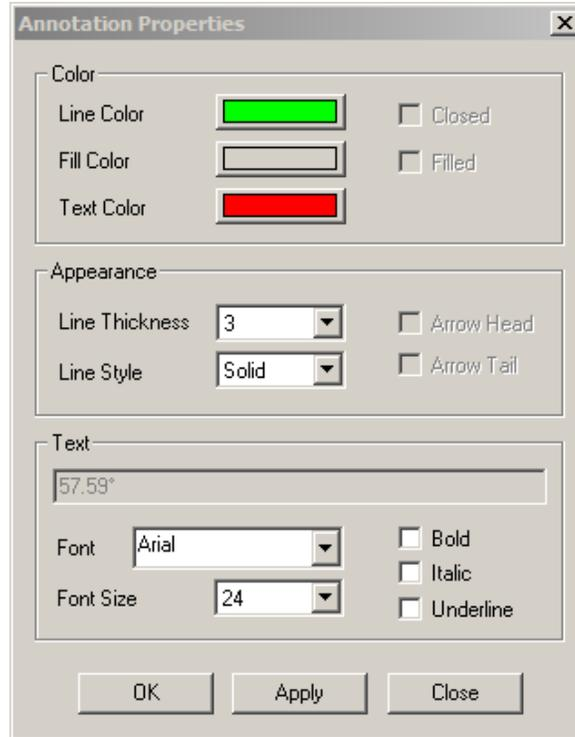

Figure 3. Annotations Properties window
7. You can click and drag the endpoints and lines to fine tune the length measurement. Double-clicking on the length annotation displays the Annotation Properties window, shown in Figure 3. This window provides options for changing the colors, fonts, and appearance of the annotations.
3. You can click and drag the end points of the lines to fine tune the angle measurement. Holding down the **Control** key while dragging the mouse will draw a horizontal or vertical line. Double-clicking on the angle annotation displays the Annotation Properties window, shown in Figure 3. This window provides options for changing the colors, fonts, and appearance of the annotations.